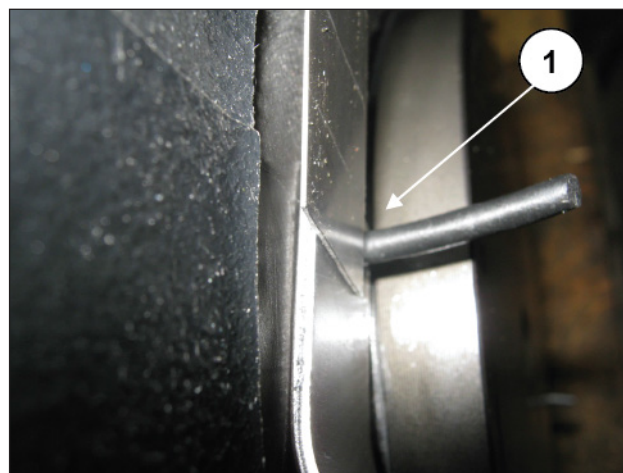
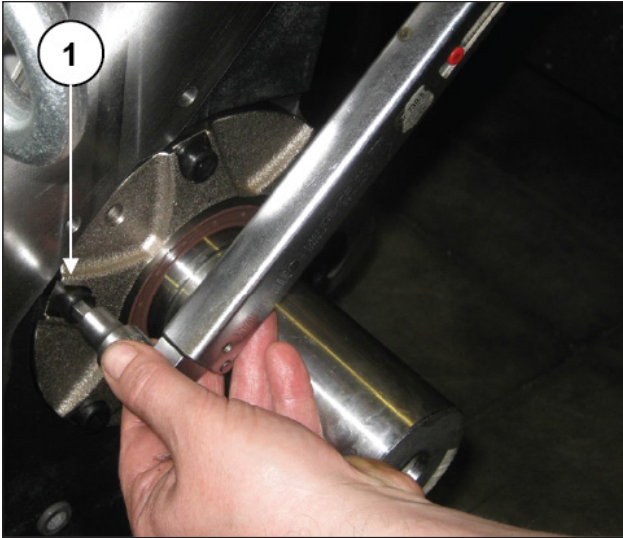
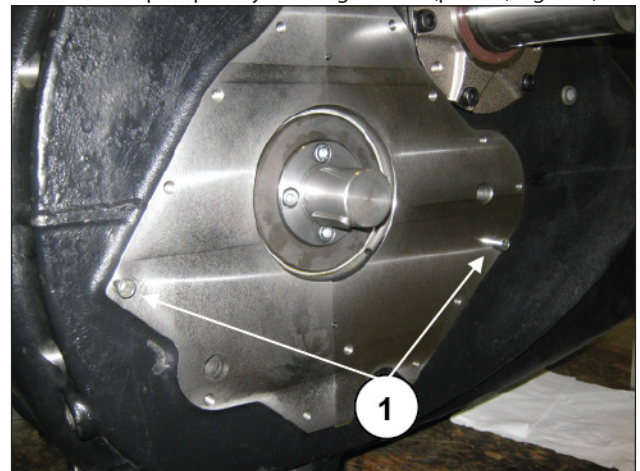

Fig. 114
Fig. 120
Fig. 125
Smear a silicone sealant such as MOTORSIL D (Arexons) over all the areas of protrusion of the O-rings in contact with the flat gaskets (Fig. 114, pos. ①).
Fit the crankshaft cover with associated gasket (after smearing silicone sealant - see Fig. 114 - on the protruding O-rings, and then tighten the M8 fixing screw (pos. ①, Fig. 120 - Fig. 121).
Fit the flat gasket (pos. ①, Fig. 125) after smearing silicone sealant (see Fig. 114) on the protruding O-rings.